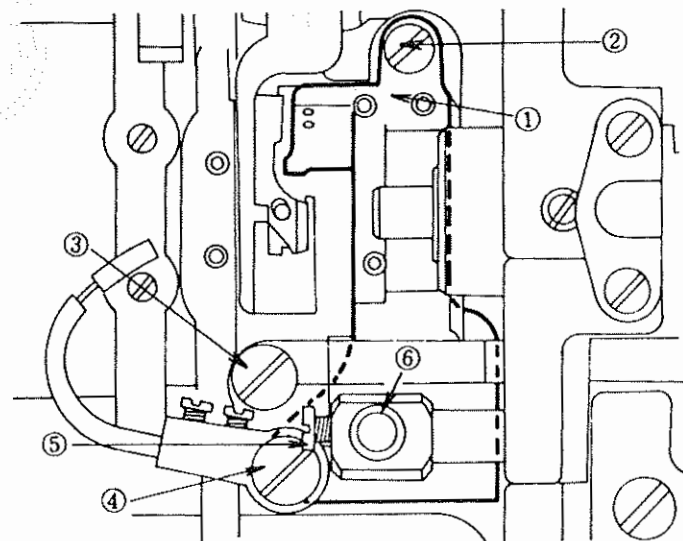

Fig. 53
Remove knife mounting base ① (Fig. 53) in the following sequence.
- 2) Loosen screw ⑤ (Fig. 53), and remove pin ⑥ (Fig. 53) for knife forked base.
- 3) After removing hinge screw ③ (Fig. 53), remove hinge screw ④ (Fig. 53) and screw ② (Fig. 53), and the knife mounting base can be removed.